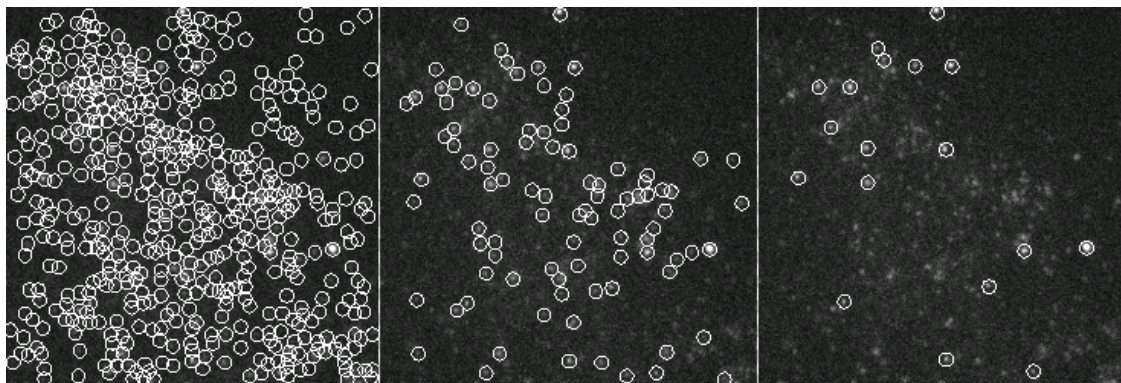

**Fig. 450** Analyzed data set of Fig. 449 using discard overlapping molecules (A), ignore overlap (B) and account for overlap (C).
- If **discard overlapping molecules** is selected, all overlapping peaks, indicated by red circles will be discarded. This will result in the highest accuracy, which is defined as the deviation of the fitted to the real peak position and localization precision (the standard deviation from the fit) (Fig. 450, **A**). This method is therefore the method of choice for single emitters and little overlap.
- If **ignore overlap** is selected, all single and overlapping peaks will be taken into account. However, fit accuracy will be decreased when multi-emitter events are fitted as the distribution of one emitter will influence the distribution of an overlapping one without this fact taken into account. Hence accuracy might suffer for multi-emitter events whereas localization precision will be sustained. (Fig. 450, **B**). This method is most suitable for slightly overlapping molecules.
- If **account for overlap** is selected all single and multi-emitter events will be taken into account. For multi-emitters the overlap of neighboring molecules is taken into account so losses in accuracy are minimized. There will be a slight decrease in the localization precision (Fig. 450, **C**). This method should be used, when molecules heavily overlap.